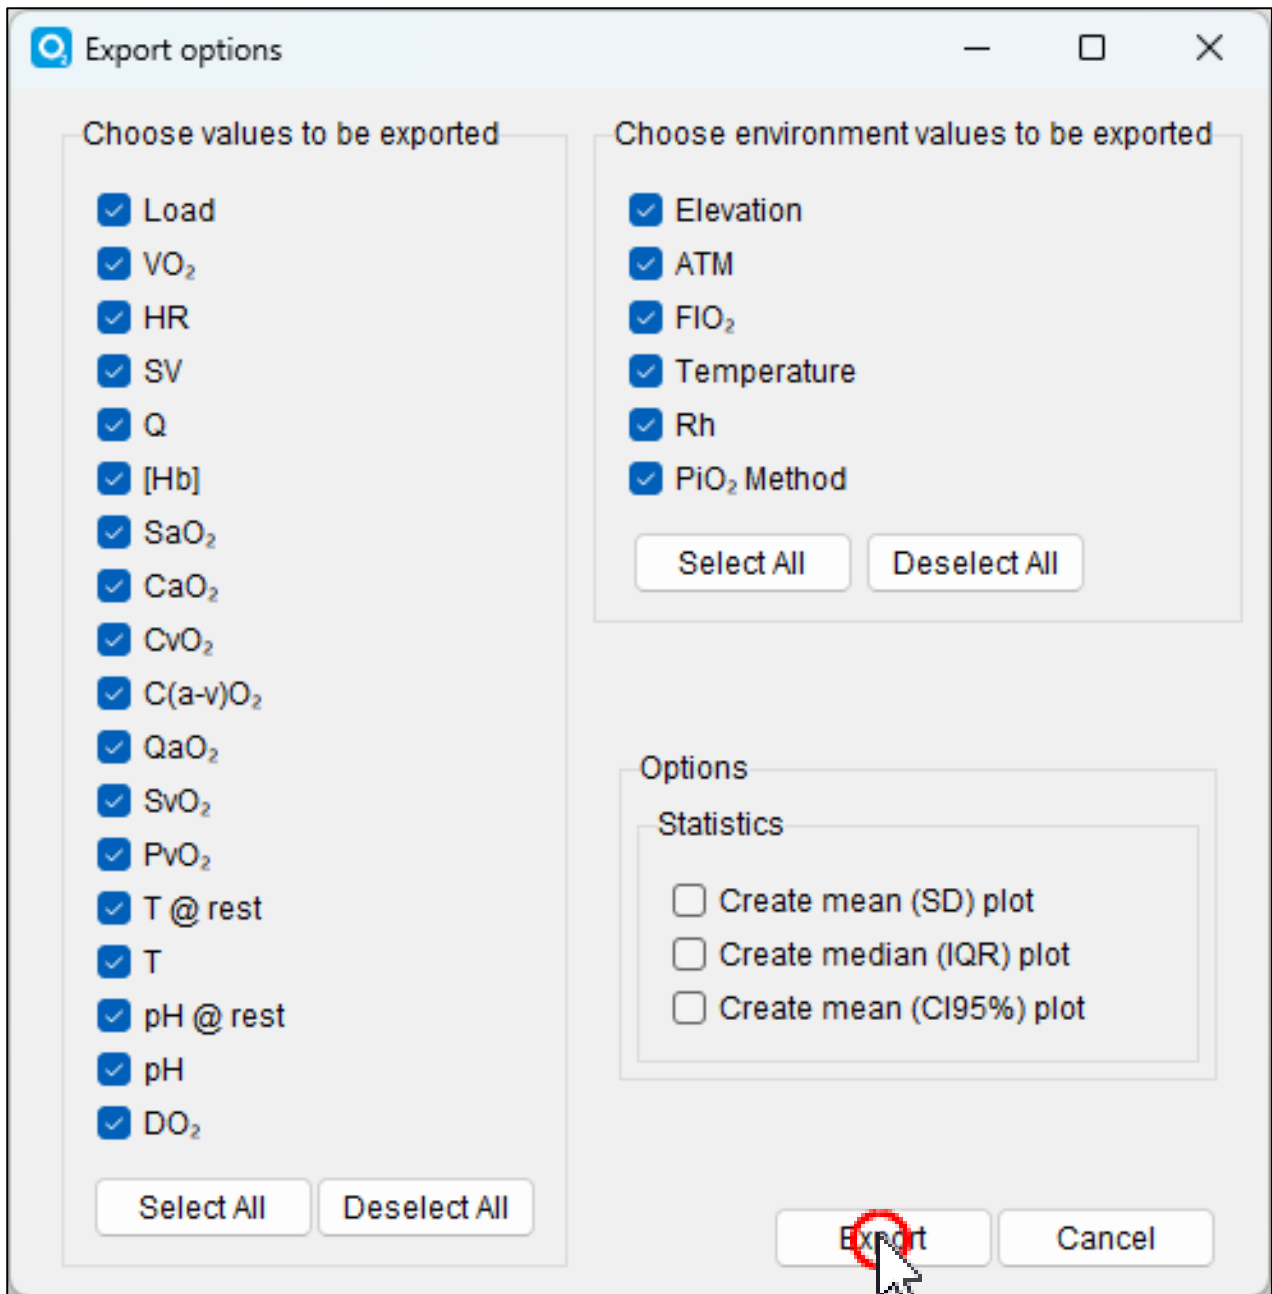

Figure 49
5. Select parameters to be exported (Figure 49).
- (a) You can deselect all by clicking the “**Deselect All**” button (Figure 49).
- (b) You can select all by clicking the “**Select All**” button (Figure 49).
6. Click the “**Export**” button (Figure 49).